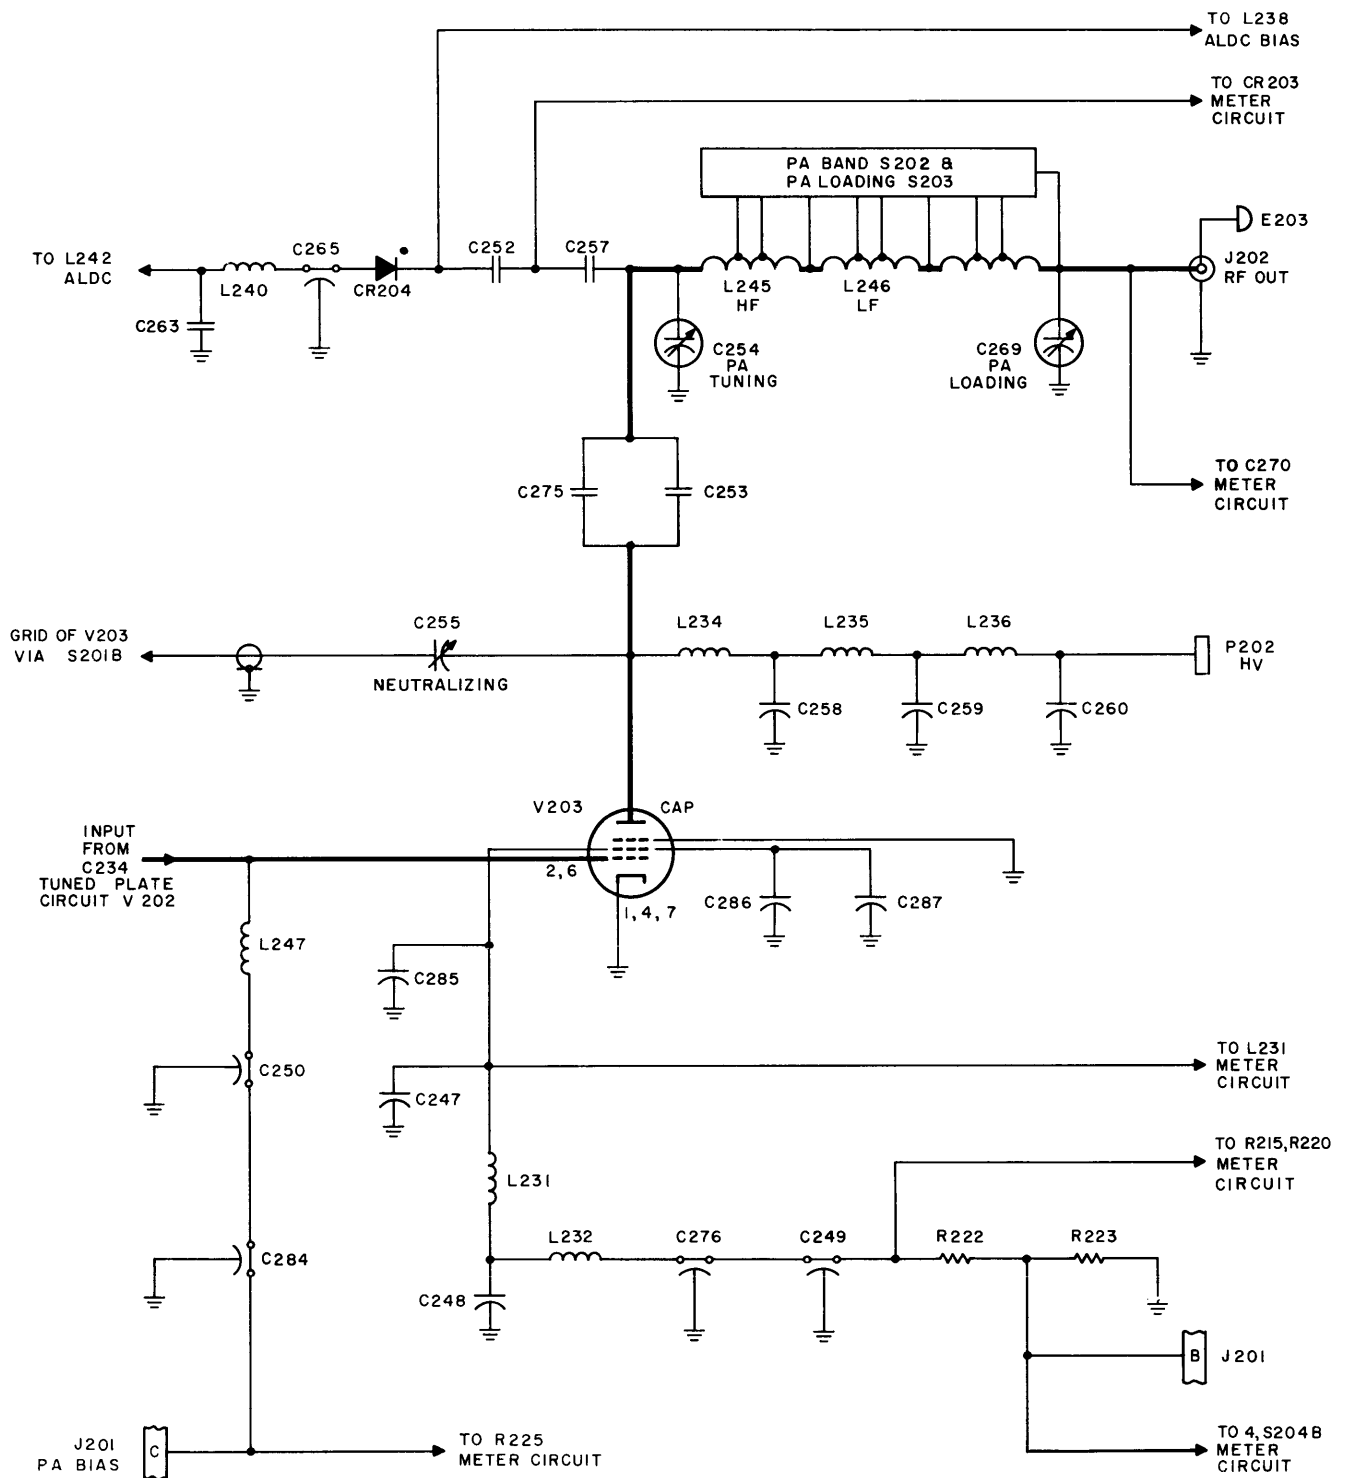

Figure 4-4. Simplified Schematic, Power Amplifier Stage V203, RFD
c. POWER AMPLIFIER, V203. (See figure 4-4.) - The class AB₁ amplifier utilizes a PL172 air-cooled tube to provide 1-kw output.